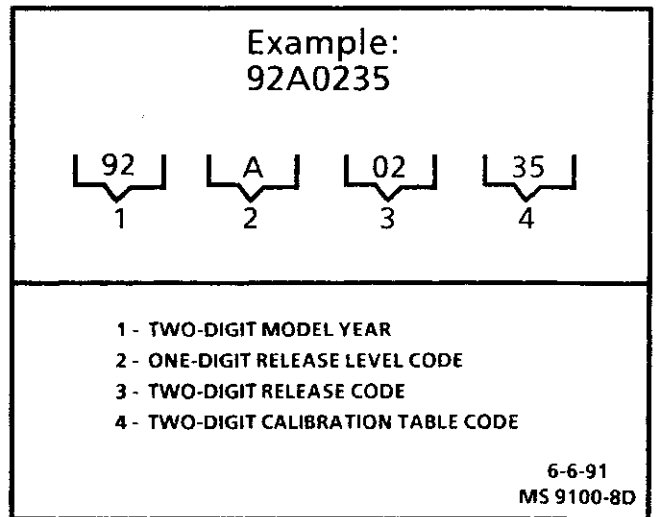

Figure 5 - Software Version Number Identification
- (A) Headlights or Parking Lights must be "ON"
- (B) Engine must be running.
- (C) LT1: 0-200 counts/LT5: 0-250 counts.
- (D) See Figure 5 for version number identification; note that the number 14 Data ID Number will not be displayed, due to the length of the version number.